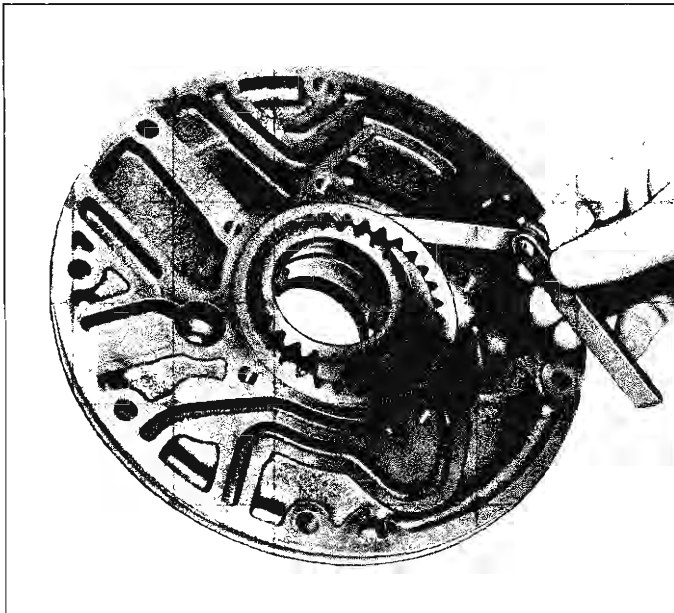

Fig. 22—Checking Driven Gear to Pump Body Clearance
- a. Clearance between O.D. of driven gear and body should be .0035"-.0065" (fig. 22).